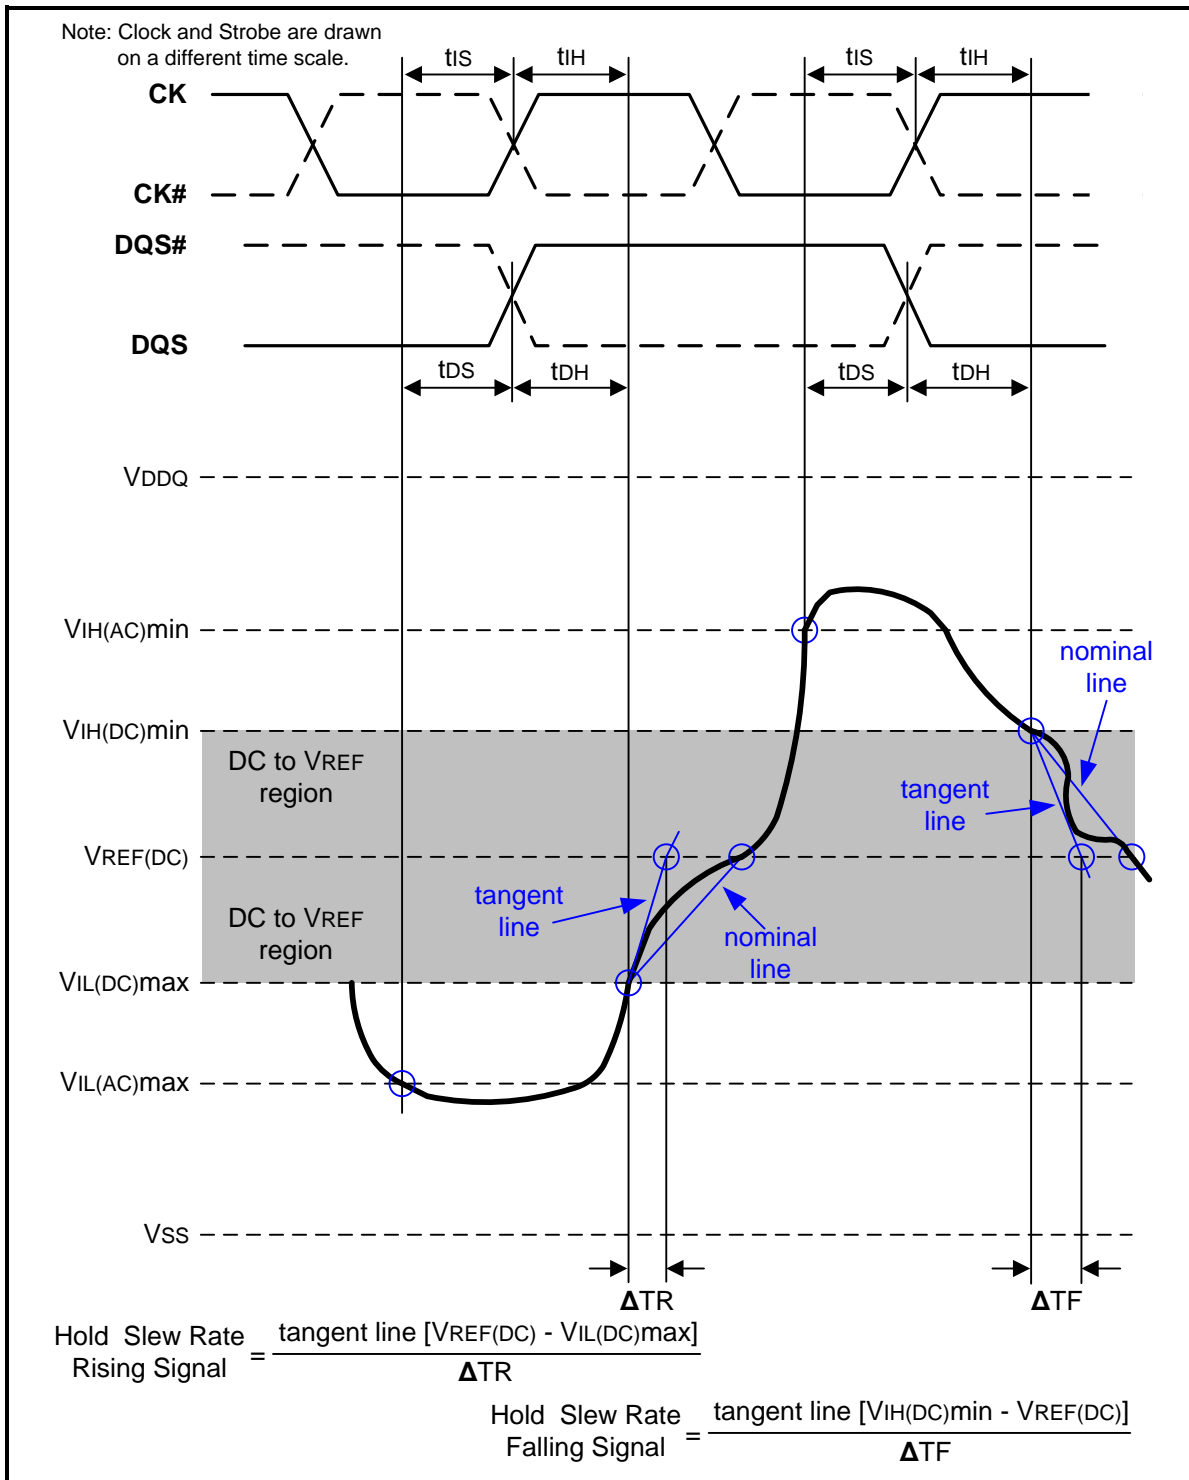

Figure 110 – Illustration of tangent line for hold time tDH (for DQ with respect to strobe) and tIH (for ADD/CMD with respect to clock)
Hold ( $t_{IH}$ ) nominal slew rate for a rising signal is defined as the slew rate between the last crossing of  $V_{IL(DC)max}$  and the first crossing of  $V_{REF(DC)}$ . Hold ( $t_{IH}$ ) nominal slew rate for a falling signal is defined as the slew rate between the last crossing of  $V_{IH(DC)min}$  and the first crossing of  $V_{REF(DC)}$ . If the actual signal is always later than the nominal slew rate line between shaded 'DC to VREF(DC) region', use nominal slew rate for derating value (see Figure 108). If the actual signal is earlier than the nominal slew rate line anywhere between shaded 'DC to VREF(DC) region', the slew rate of a tangent line to the actual signal from the DC level to  $V_{REF(DC)}$  level is used for derating value (see Figure 110).
Hold (tDH) nominal slew rate for a rising signal is defined as the slew rate between the last crossing of VIL(DC)max and the first crossing of VREF(DC). Hold (tDH) nominal slew rate for a falling signal is defined as the slew rate between the last crossing of VIH(DC)min and the first crossing of VREF(DC) (see Figure 108). If the actual signal is always later than the nominal slew rate line between shaded 'DC level to VREF(DC) region', use nominal slew rate for derating value. If the actual signal is earlier than the nominal slew rate line anywhere between shaded 'DC to VREF(DC) region', the slew rate of a tangent line to the actual signal from the DC level to VREF(DC) level is used for derating value (see Figure 110).